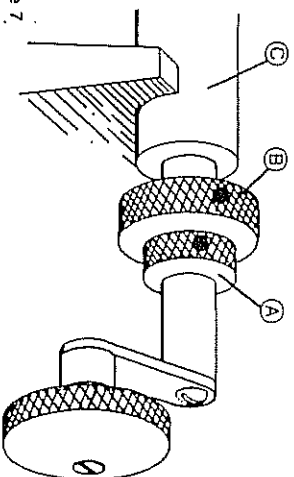

Figure 7
Holding the Adjustment Bushing (A) firmly in place, unscrew the Fine Adjustment Bushing (B) four or five full turns clockwise. (Figure 7.) Now slide both bushings left against the Cutter Guide (C) and tighten the setscrew in Bushing (A) only. Twist Bushing (B) counterclockwise 1/2 turn and you're ready to trim the first case. When turning the handle, press lightly inward against the case mouth.